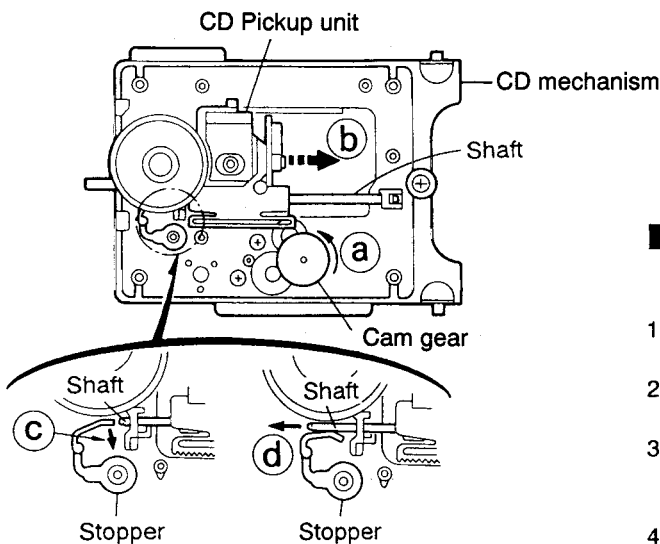

Fig.5-47
Removing the CD pickup unit (See Fig.5-47)
1. Move the cam gear in the arrow direction ①. Then, the CD pickup unit will be moved in the arrow direction ②.
2. According to the above step, shift the CD pickup unit to the center position (See Fig.5-47).
3. While pressing the stopper retaining the shaft in the arrow direction ③, pull out the shaft in the arrow direction ④ (See Fig.5-47).